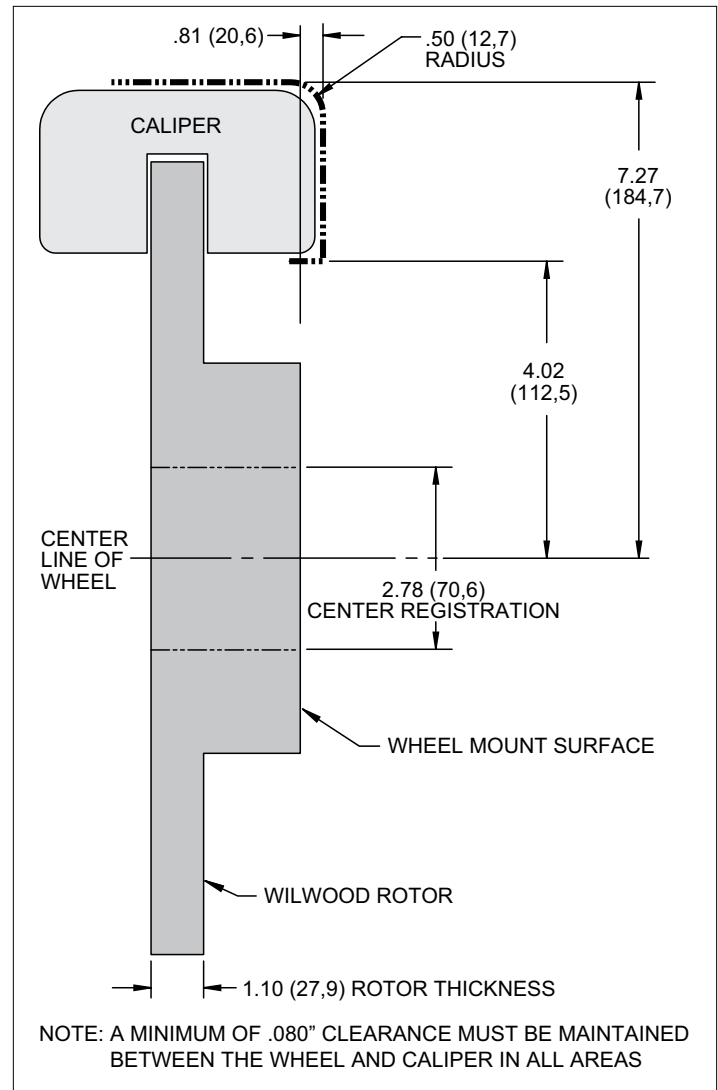

Figure 3. Wheel Clearance Diagram
- Review the wheel clearance diagram (Figure 3, page 4) to verify that there is adequate clearance with the wheels you will be using with the installation.